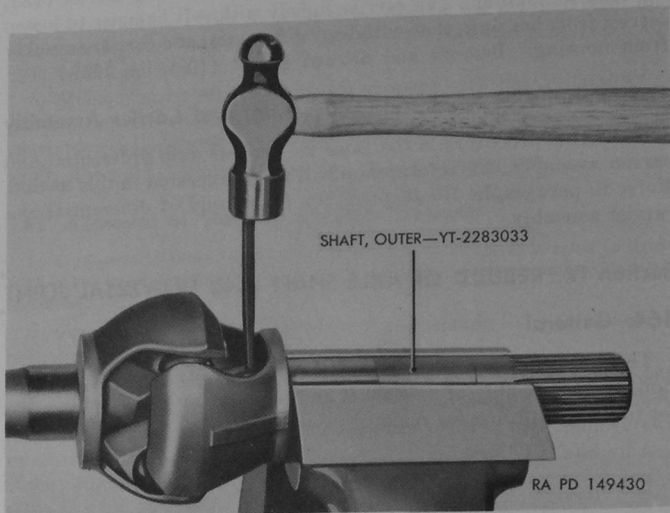

Figure 113. Universal joint center ball lock pin removal or installation.
c. Remove Center Ball Pin Lock Pin.—Position axle shaft and universal joint in a vise (fig. 113) or lay on a bench. Use a suitable punch and hammer to drive $\frac{3}{16}$ x $1\frac{5}{8}$ taper-grooved pin (B) out of outer shaft (fig. 113).
i. Install Center Ball Pin Lock Pin.—Install a new $\frac{3}{16} \times 1\frac{5}{8}$ taper-grooved pin (B) into drilled hole in outer shaft and drive into position (fig. 113). Remove assembly from vise and lay on bench or anvil so as to support one end of pin. Strike end of pin sharply with prick punch to expand end and lock it in position. Turn assembly over and expand opposite end of pin in the same manner.
- (1) *Position Assembly in Vise.*—Install assembly in vise in a vertical position with the outer shaft at the top and the vise jaws gripping the inner shaft just below the universal joint. Use soft jaw plates to protect shaft.
- (2) *Determine Play or Backlash.*—Firmly push down on outer shaft so that it rests on the center ball, at the same time, attempt to twist the joint in both directions. The presence of play or backlash indicates the need of still larger outer balls.
- (3) *Determine Pull Required to Move Shaft Through Its Normal Operating Range.*—With assembly still mounted in vise, attach a spring scale within one inch of end of outer shaft. With spring scale, pull shaft through its normal operating range and note reading on spring scale. A pull of more than 30 pounds indicates that outer balls of too large an oversize have been installed. Ideal conditions when oversize outer balls are installed in used universal joints are as follows: Vertical or straight position—no play or backlash; 10 to 15 degree turn—30 pound maximum drag; 15 to 32 degree or full turn—free with slight lash permissible.